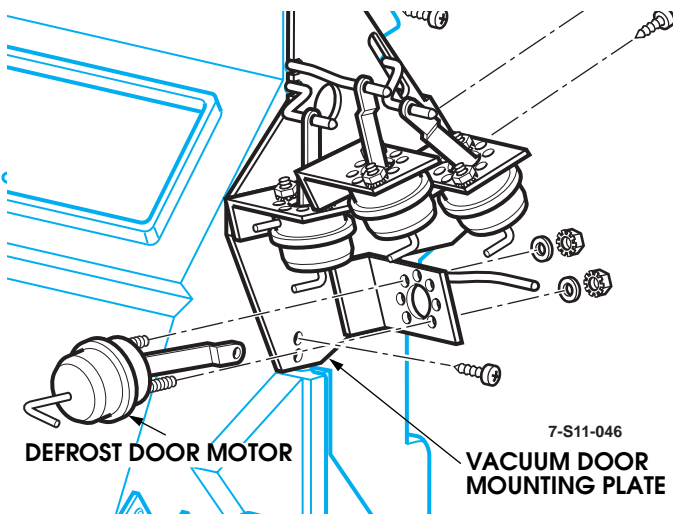

Figure 11-79: Vacuum Door Motor Mounting Plate
- Remove defrost motor from the bracket, note position of mounting studs in mounting plate (Figure 11-79).
- Remove screws securing vacuum motor mounting plate to main HVAC unit, and remove mounting plate. If the floor door travel limiting rivet was not removed, the door arm will prevent removal of the mounting plate by not aligning with the elongated slot (Figure 11-79).